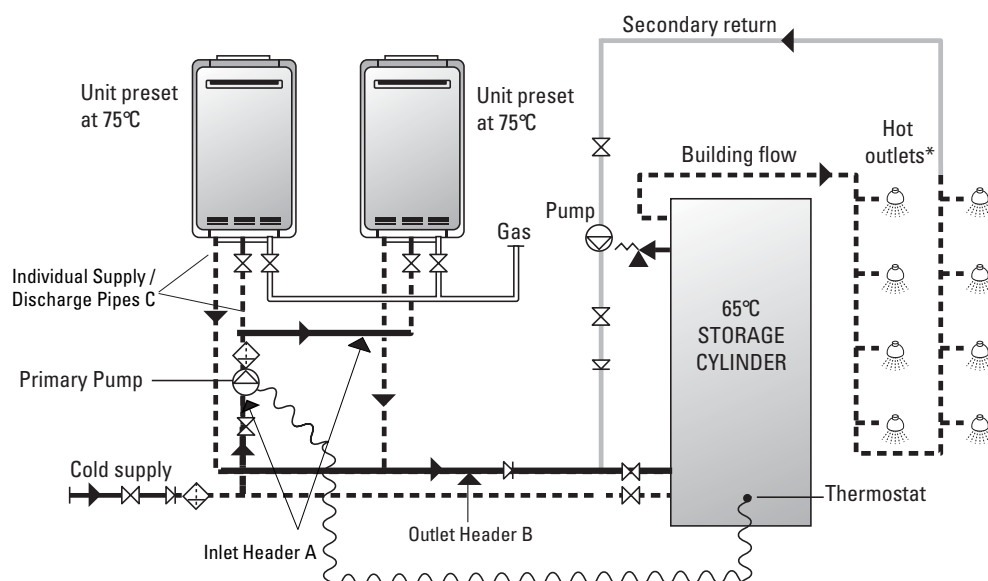

Figure 8.7: Water Pipe Sizing Schematic using REU-V2632WC units with storage cylinder.
Headers A & B (Fig. 8.7) ⁽²⁾	Individual Discharge Pipes C (Fig. 8.7) ⁽³⁾
4. The piping layout is assumed to be the same as depicted in Figure 8.7. Deviations from this layout (such as additional bends) may reduce system output.